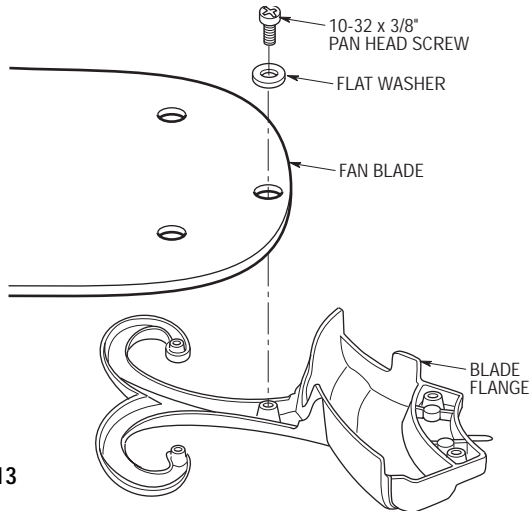

Figure 13
1. Use three 10-32 x 3/8" pan head screws and flat washers (supplied) to secure the flange to the blade (ordered separately) (Figure 13). Repeat for the four remaining blades.